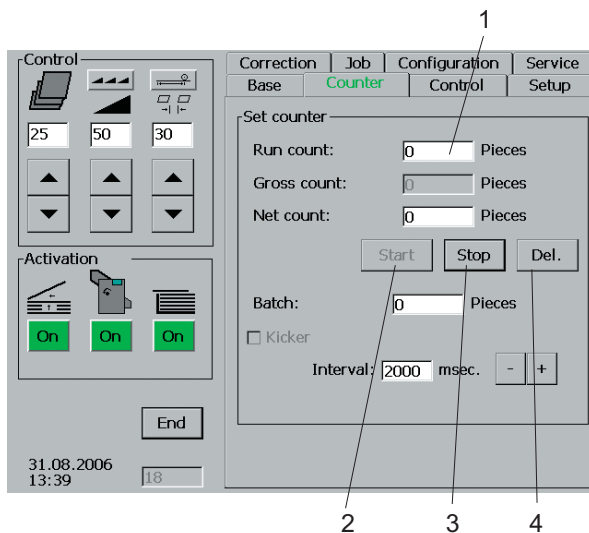

Fig. 52 Counter
1. Touch the input window for *Run count* (Fig. 52/1).
- Fig. 52/2 *Start* - Net count is activated
- Fig. 52/3 *Stop* - Net count is deactivated
- Fig. 52/4 *Del* - Net count is reset